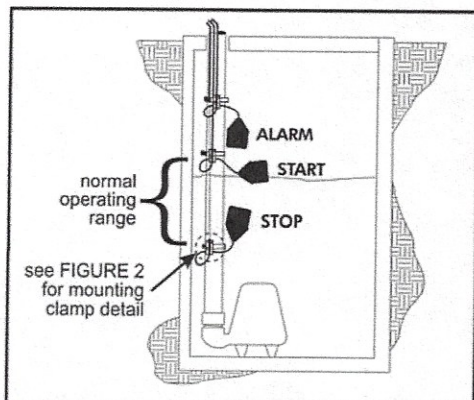

FIGURE 1 - Three float simplex - pump down installation
2. Determine your normal operating level, as illustrated in **Figure 1**.